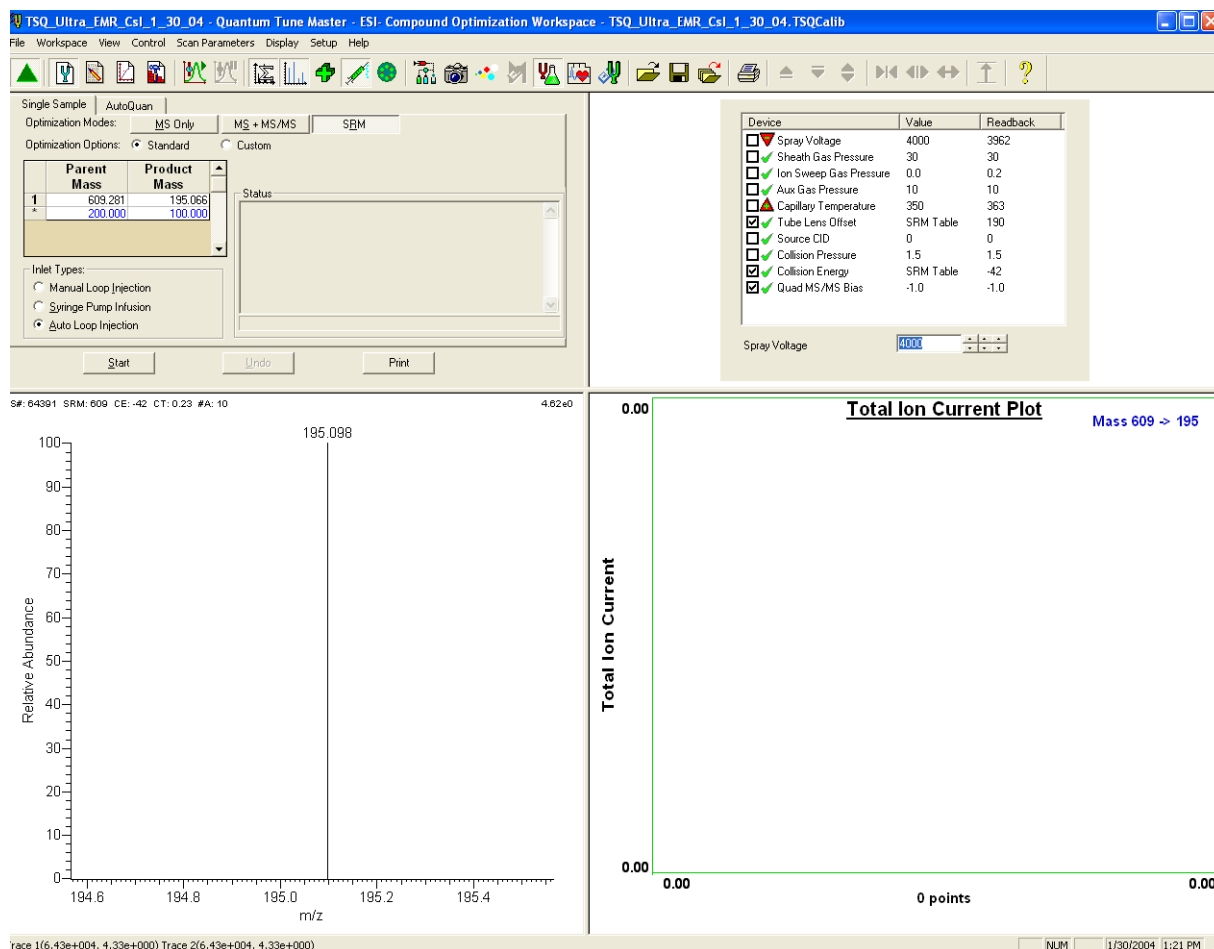

Figure 4-9. Compound Optimization workspace
1. In Tune Master, on the Control / Scan Mode toolbar, click on the Compound Optimization Workspace button to display the Compound Optimization workspace. See Figure 4-9.
- a. Select the Optimization Modes: SRM button to enable you to optimize a selected reaction. (Figure 4-9)